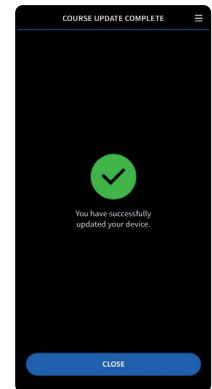

Fig 4 - Successfully updated
5. Once complete the app will confirm that the course has been successfully updated (fig.4)